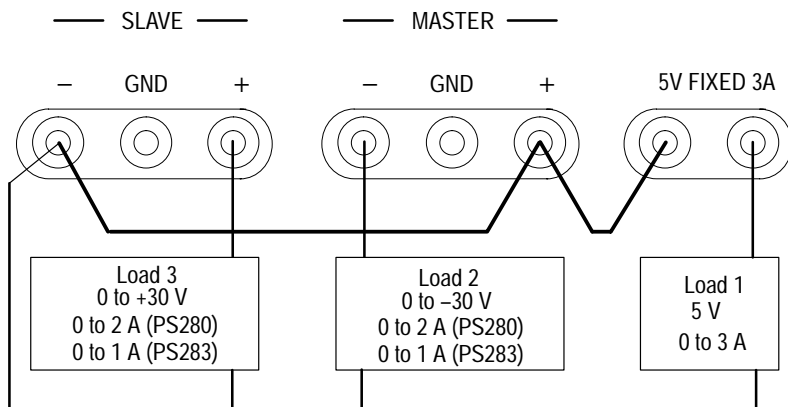

Figure 6: Independent Ground-Referenced Split Application
Figure 6 shows the PS280 or PS283 connected to produce separate outputs of +5 V from the FIXED power supply, 0 to +30 V from the slave variable power supply, and 0 to –30 V from the master variable power supply. In this configuration, the red output terminal of the master variable power supply is the negative reference terminal because it is directly connected to the ground terminal.
2. Connect the outputs as shown in Figure 6.